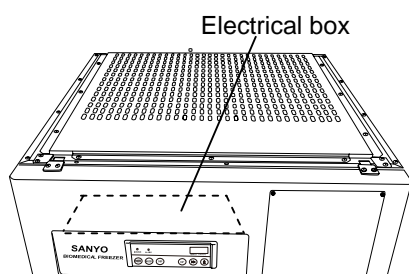

Fig. 1
This unit is provided a nickel-metal-hydride battery for the power failure warning device. The battery is located in the battery mounting plate inside the cover on the upper side. (Fig. 1)
1. Remove the screw on the cover for the recorder space on the upper front of the freezer. Fig. 1